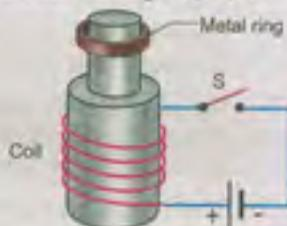

Fig. Q. 15.6
- 15.6 When the switch in the circuit is closed a current is established in the coil and the metal ring jumps upward (Fig.Q.15.6). Why?